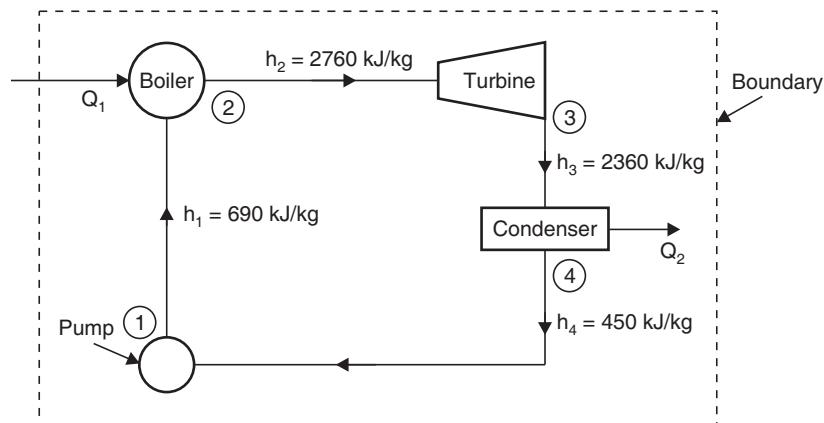

Fig. 3.19
**Example 3.19.** In a power plant cycle, the temperature range is  $164^\circ\text{C}$  to  $51^\circ\text{C}$ , the upper temperature being maintained in the boiler where heat is received and the lower temperature being maintained in the condenser where heat is rejected. All other processes in the steady flow cycle are adiabatic. The specific enthalpies at various points are given in Fig. 3.19.